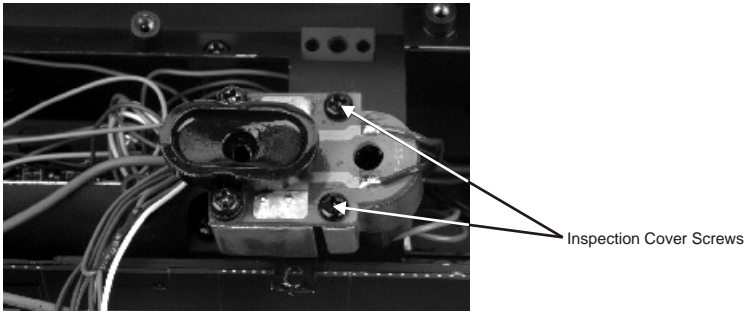

Figure 11
1. Once the boiler has been removed, remove the inspection cover (See figure 11). Inspect the wick; if it is darkly discolored and hard, it should be replaced.